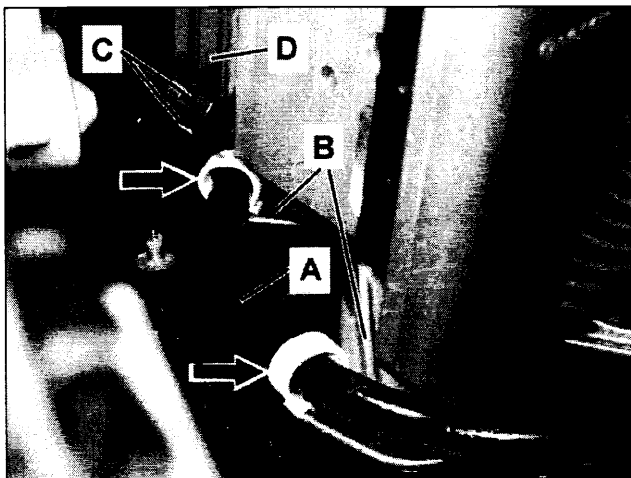

Figure 20
23. Secure new SBC suction hose (A, Figure 20) to SBC hydraulic unit mounting bracket (B) using **new** (“omega” type) mounting clips (arrows).
24. Insert a cable tie through slots (C, Figure 20) in bracket (D), **do not** close cable tie